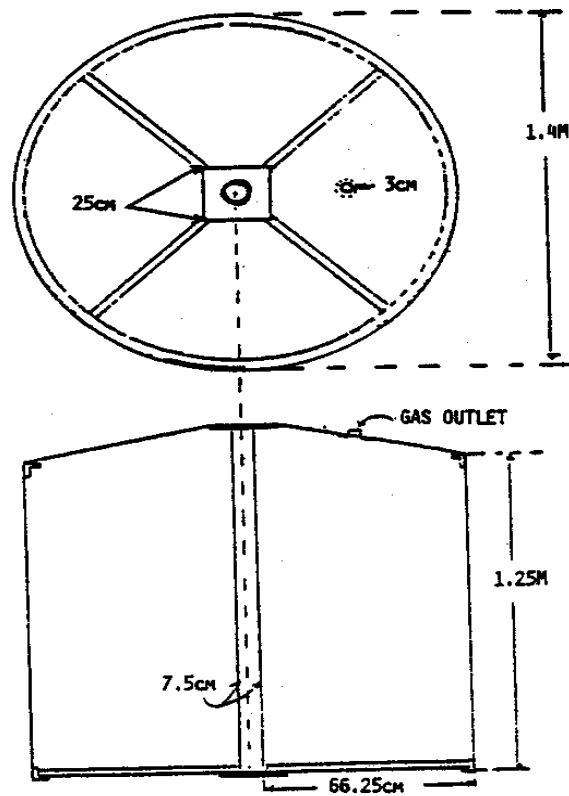

Figure 4. Biogas Plant Gas Cap
- * Make the diameter of the drum 10cm less than that of the pit (1.4 meters diameter) as shown in Figure 4.